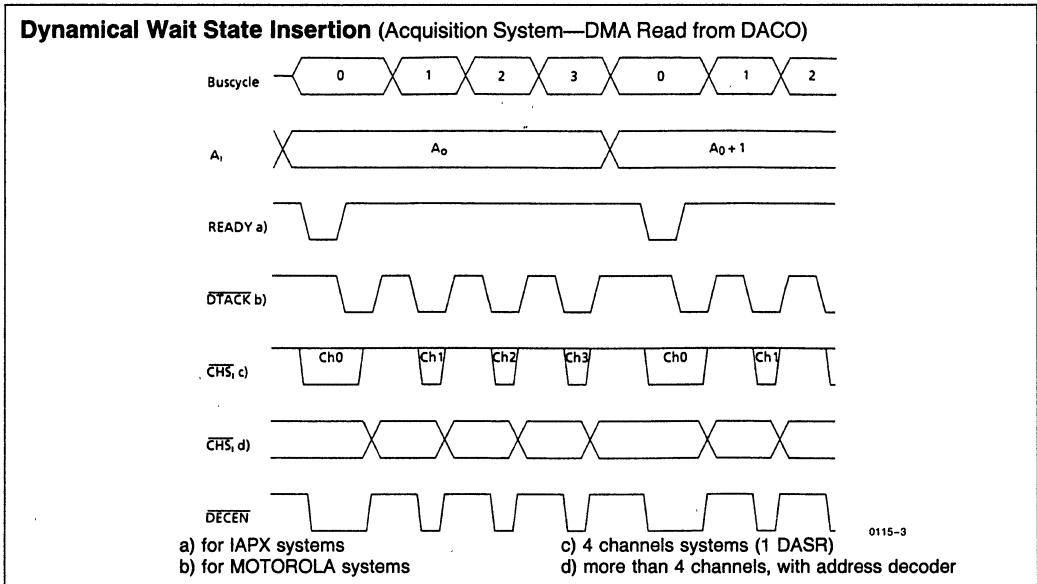

Figure 3
2) Insertion of wait states at address transitions only. This dynamic insertion mode which can be applied in DMA based systems only reduces the number of wait states significantly. When reading the HSDA memory all SRAMs are enabled continuously. As a consequence wait states need only be inserted in the first bus cycles after each address transition until all the memories data become valid (see Figure 3).